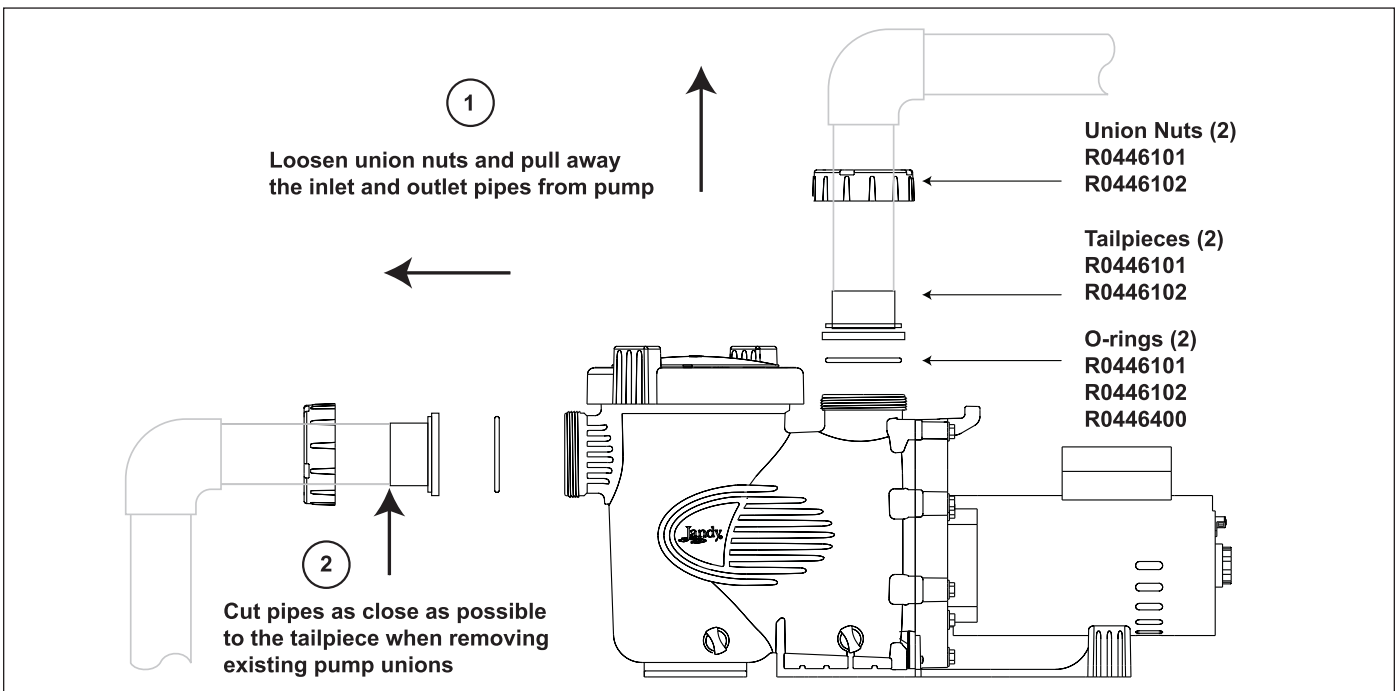

Figure 1. Replacement and Fitting of the Inlet and Outlet Tailpiece
Refer to Figure 1 and the parts list to identify part(s) included in each replacement kit. **These instructions must be followed exactly. Read through the instructions completely before starting the procedure.**
- a. As shown in Figure 1, cut the inlet and outlet pipes as close as possible to the existing tailpieces.